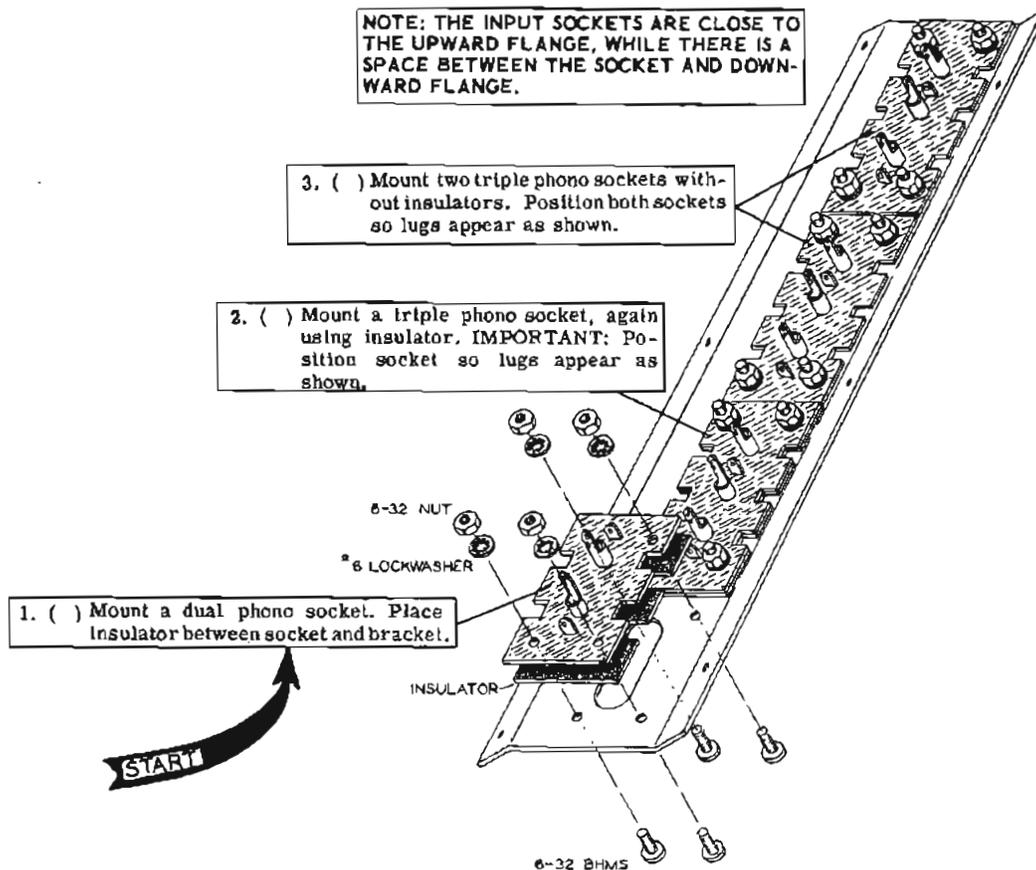

Figure 14
- () Prepare a 3-1/4" wire and insert one end into hole G on the small circuit board. Connect the other end to lug 3 on control R (NS).
- () Now proceed to Figure 14 for preassembly of the input socket bracket.